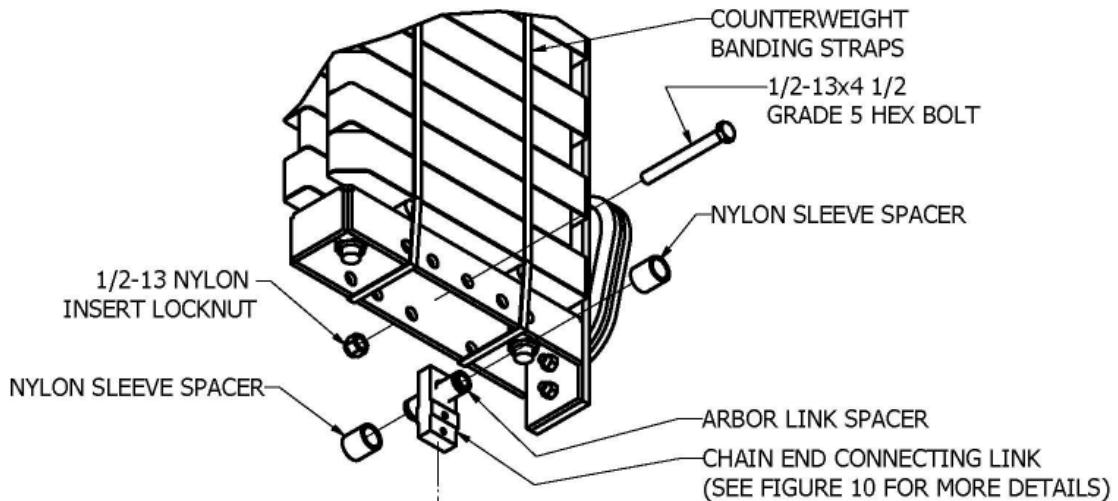

Figure 11: Attaching the drive chain to the bottom of the arbor
2. Temporarily install the Chain End Link into the underside of the arbor using the Arbor Link Spacer and the 1/2" bolt. See Figure 11. It is not necessary to install the nut onto the bolt in this step, merely pin the parts in place temporarily.
6. Insert the Arbor Link Spacer provided with the hoist through the wire rope thimble and into the arbor top. Bolt through the arbor top with a 1/2-13 UNC Grade 5 hex bolt. The Arbor Link Spacer can be identified by the two grooves turned into the part at each end. See figure 11.